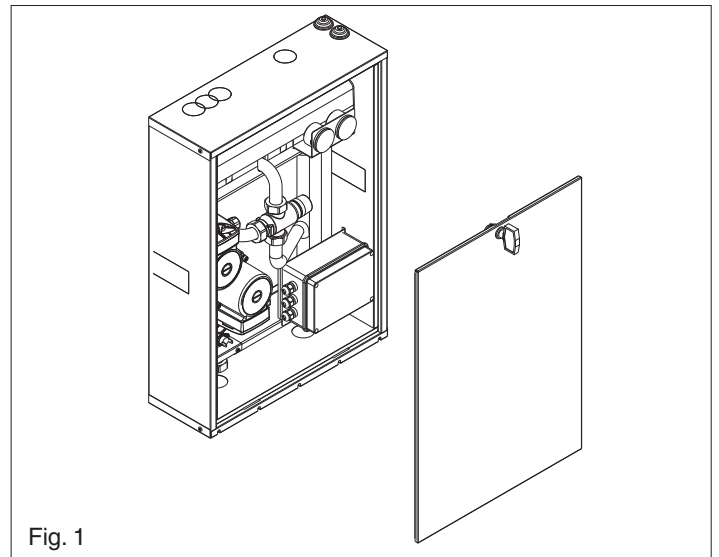

Fig. 1
- Remove the front cover panel from the Connect BASE (fig. 1).